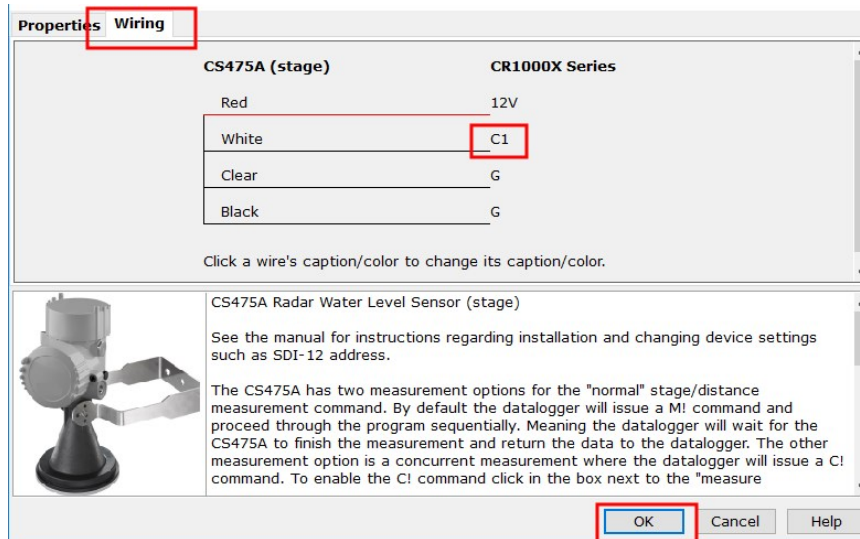

FIGURE 4-4. *Short Cut, Change Wire Location*
- Click the **Wiring** tab to see how the sensor is wired to the data logger. You can change a wire location by selecting the control terminal (C) (FIGURE 4-4 (p. 4)). Click **OK** after wiring the sensor.